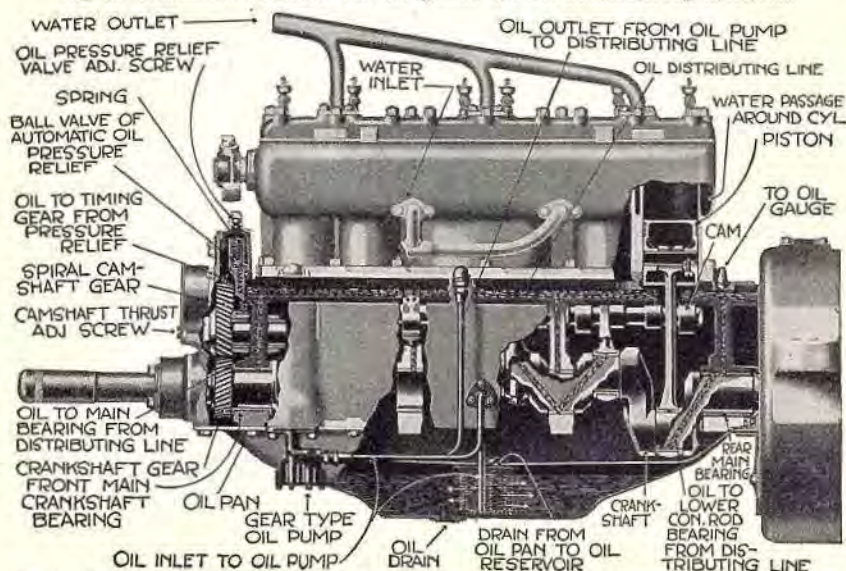

Fig. 2. Lubrication sectional view of model "7R" six-cylinder Red Seal Continental engine, left side.
The cam shaft is operated by a gear (G1) on the crank shaft, which operates a gear (G2, Fig. 2), which is called the lower timing gear; this gear is placed at the lower end of a vertical shaft (VS) with an upper timing gear (G3), which operates the cam-shaft gear (G4). By referring to Fig. 2, it will be seen how the cam (C) operates the tappet arm (F), which in turn opens the valve against the tension of the spring (S). While the construction varies, the principle, it will be noticed, is just the same as in any other engine. The cam shaft turns one revolution to two of the crank shaft.
Fig. 2 explains the purpose, location, and parts of a simplified carburetor.
The air goes through a passage, in which is a small pipe called a "spray nozzle," that sprays the gasoline so that it comes in contact with the air (see Fig. 2). The gasoline, being volatile, is taken up by the air, and the mixture goes to the cylinder.
Fig. 2. Simplified illustration showing how the gasoline flows from the gasoline tank to the carburetor; how it is mixed with air and then drawn into the cylinder when the inlet valve is open.